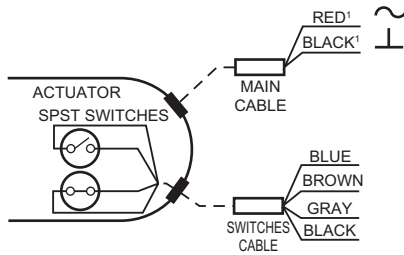

Fig. 9. Cable installation details.
Some models include Auxiliary Switches. For wiring details see Fig. 9.
2. Connect power to power and common wire. (See Fig. 9 and Table 3.)